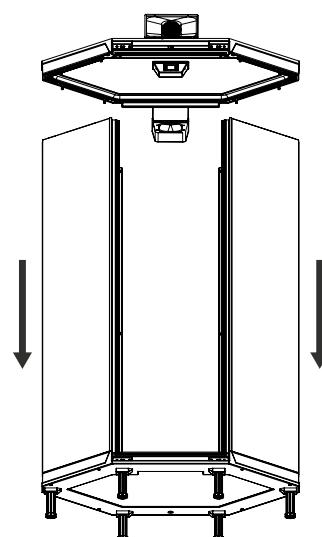

Fig. 8-5
3. Put the roof element on the two sidewalls (figure 8-5 and 8-6).
4. Do not completely lock the roof element together with the sidewall elements only slightly by using the M6 Hex key (3-1) . (The reason for not locking completely is to make it easier to fit the cooling unit into the niche).